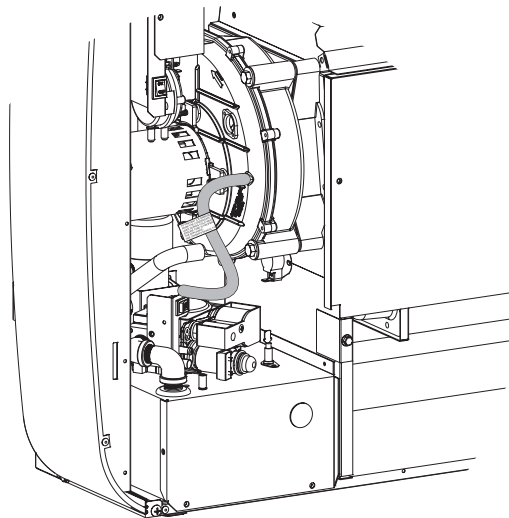

Figure 62
4. Remove the clear hose from the front drain tap on the inducer housing. **See Figure 62.**